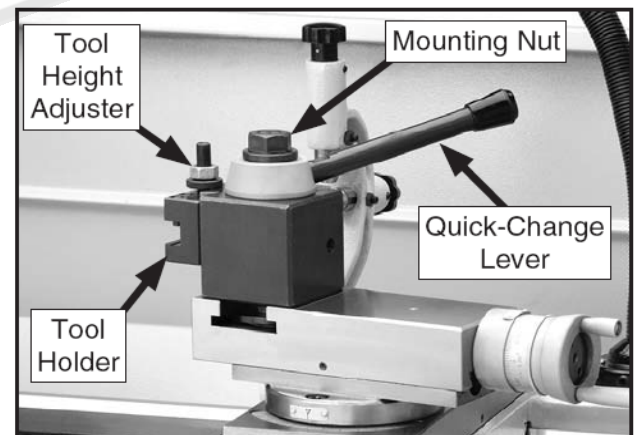

Figure 35
2. Move the quick-change lever (**see Figure 35**) to recess the lock piston and provide an unobstructed slot for the tool holder to slide down into.